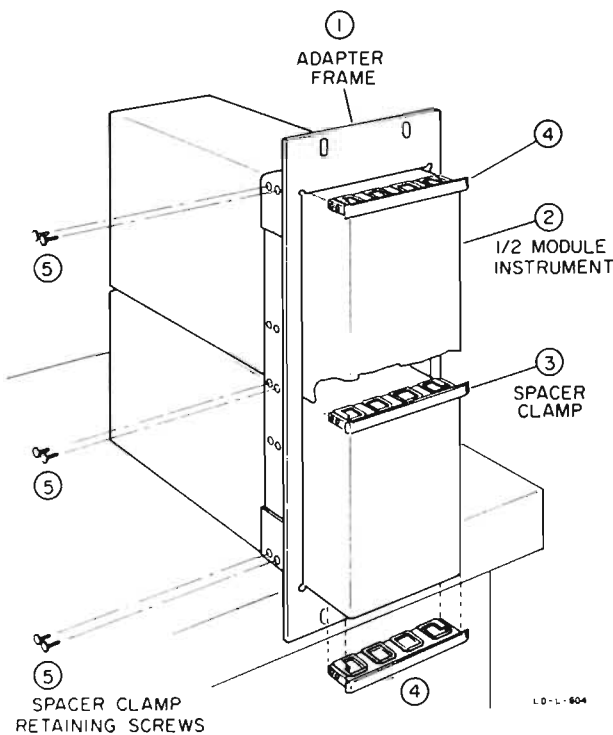

Figure 2-4. Two Half Module in Rack Adapter
- a. Place the adapter frame on edge of bench as shown in step ①, figure 2-4.
- b. Stack the submodular units in the frame as shown in step ②, figure 2-4. Place the spacer clamps between instruments as shown in step ③, figure 2-4.
- c. Place spacer clamps on the two end instruments (see step ④, figure 2-4) and push the combination into the frame.